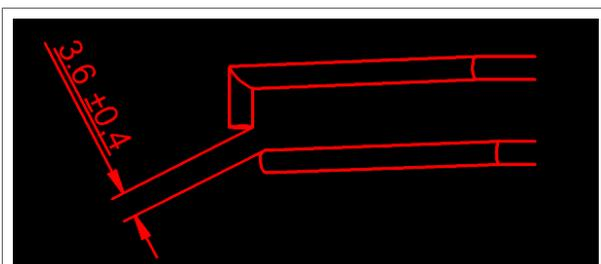

Figure 29 - Distance between the two electrodes
- b. The distance between the two electrodes should be  $3.6 (\pm 0.4)$  mm (figure 29).